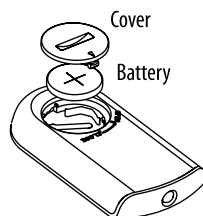

Fig. 2
- To replace the batteries, remove the battery cover by rotating it. Replace the battery paying attention to respect the right polarity as shown in figure 2.